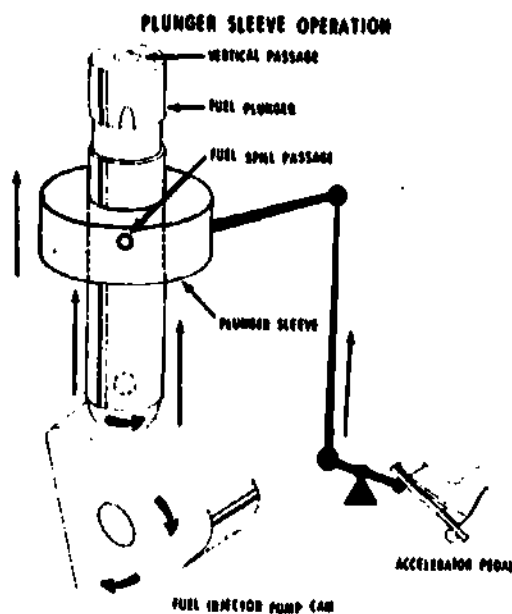

Fig 3-13, Fuel plunger.
- (3) Fuel plunger sleeve (Fig 3-13). Another function of the injector pump is to meter the amount of fuel delivered. The fuel plunger is known as a constant stroke plunger because it always moves up and down the same distance. Therefore, it would appear that the pump would always deliver the same amount of fuel. However, by adding a plunger sleeve we will see that the amount of fuel delivered can be varied. It can be moved up and down as desired by the operator.